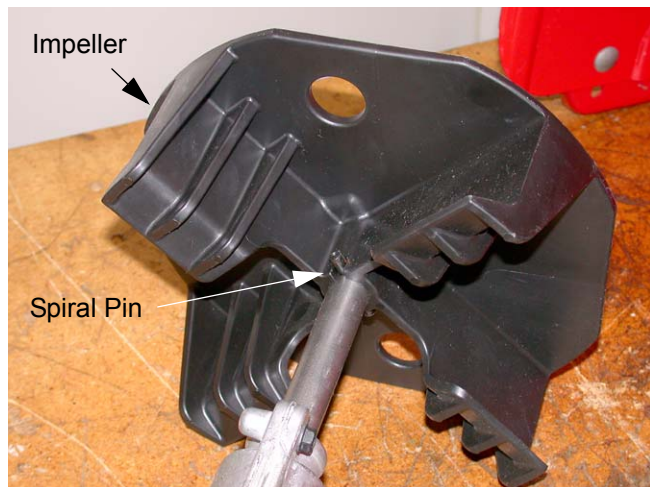

Figure 13.2
- 13.2. Using a 3/16 punch and hammer, remove the front spiral pin securing the impeller to the worm shaft. See Figure 13.2.